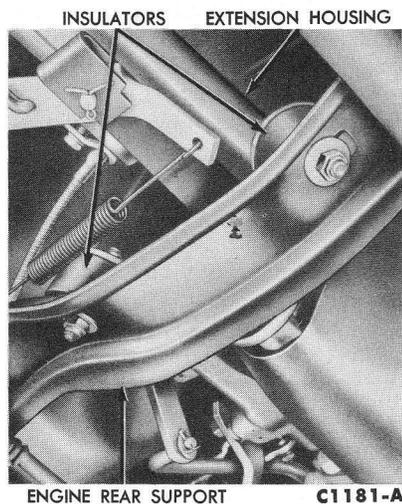
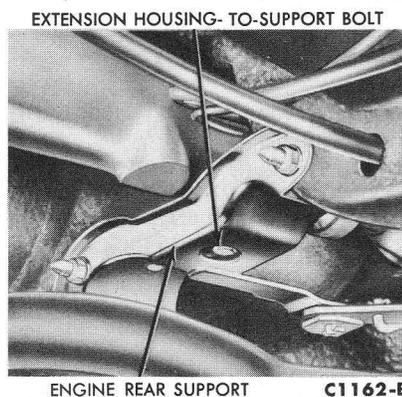

FIG. 4—Extension Housing Mounting—Station Wagon
FIG. 5—Extension Housing Mounting—Sedan
3. Disconnect the speedometer cable. On a station wagon, remove the nuts from the insulator retaining bolts (Fig. 4). On a sedan, remove the bolt at the transmission support (Fig. 5). Disconnect the shift rods at the transmission shift levers.